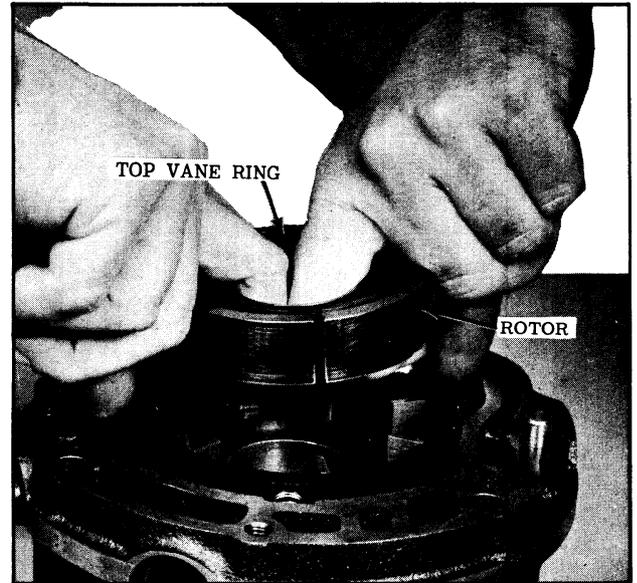

Fig. 3-96 Rotor Removal
2. Remove the top vane ring and the rotor. (See Fig. 3-96)